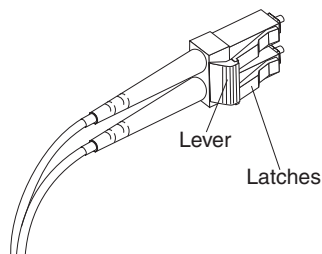

Figure 21. LC-LC Fibre Channel Cable lever and latches
1. On the end of the LC-LC cable that connects into the SFP module or host bus adapter, press down and hold the lever to release the latches, as shown in Figure 21.